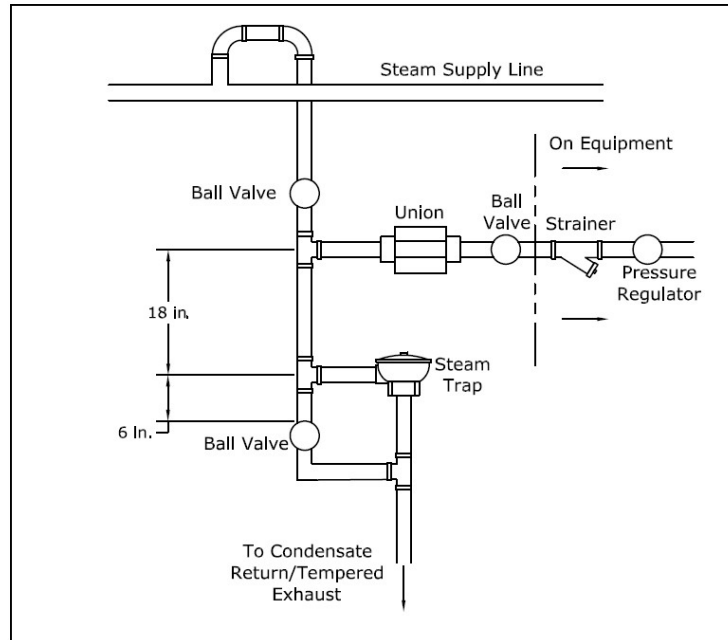

Figure 2: Typical Drip Leg and Trap Configuration
- Drip leg (with float type inverted bucket or thermostatic trap) 18" under steam connection required, supplied and installed by others (See Figure 2)